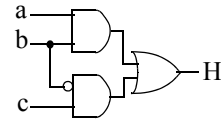

Figure 2.80
2.51 Determine whether the Boolean function $G = a'b'c + ab'c + abc' + abc$ is equivalent to the function represented by the circuit in Figure 2.80.